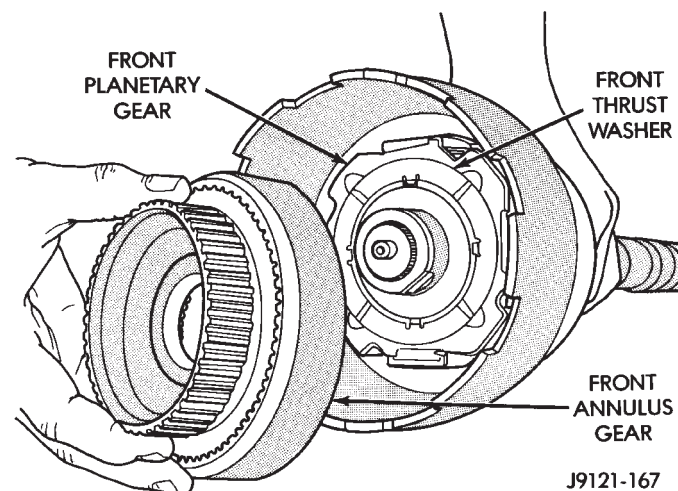

Fig. 159 Installing Front Planetary And Annulus Gears
(14) Install front planetary gear on output shaft and in driving shell (Fig. 159).
(15) Install front thrust washer on front planetary gear. Use enough petroleum jelly to hold washer in place and be sure all four washer tabs are seated.
(16) Assemble front annulus gear and support, if necessary. Be sure support snap ring is seated.
(17) Install front annulus on front planetary (Fig. 159).